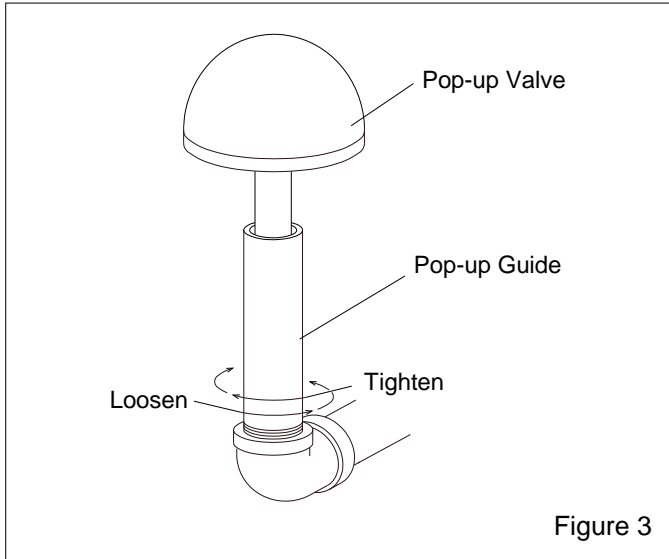

Figure 3
**5.3. Replacing the Pop-Up Valve, Figure 3**